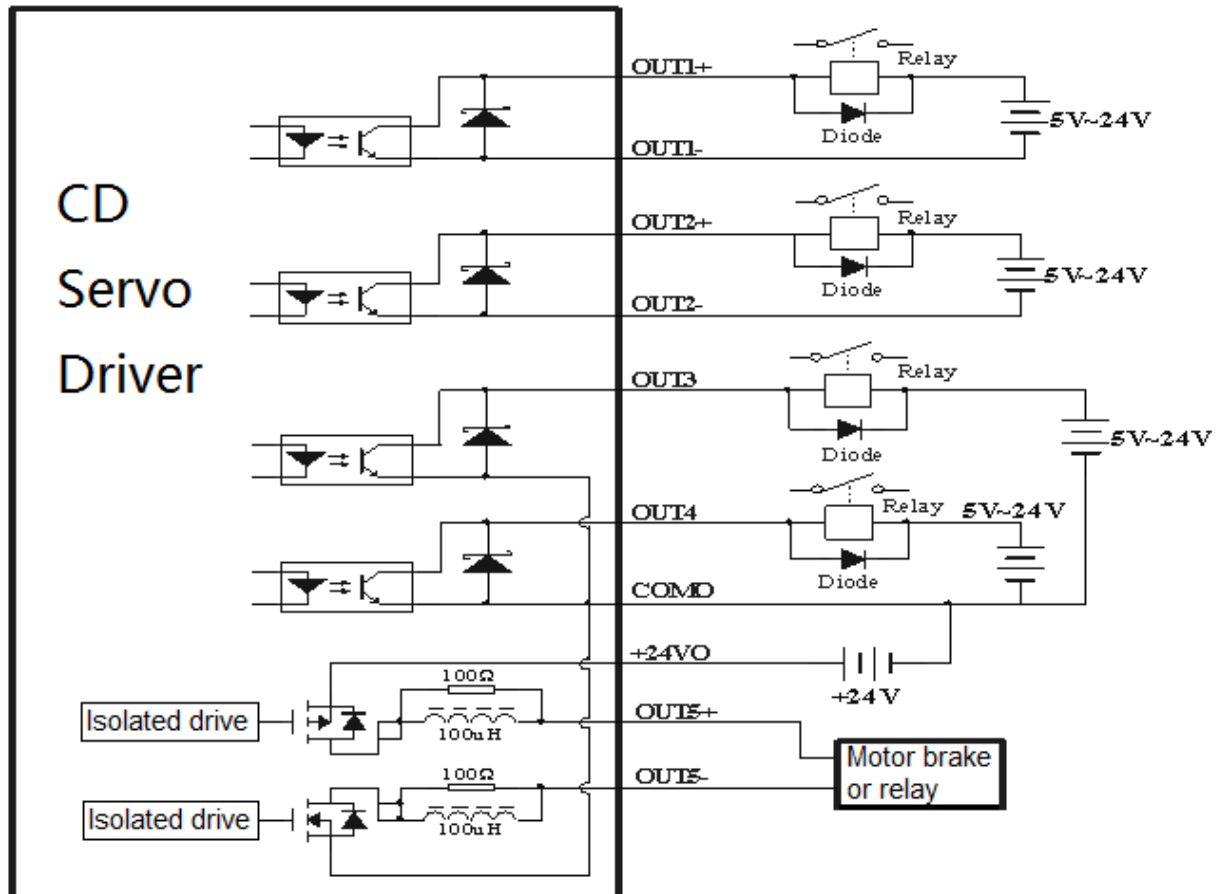

Fig. 6-7 Connect a relay to the digital output port (Reverse parallel connect diode)
4. To connect a relay to the digital output port, do remember to connect a diode in inverse parallel, as shown in Fig. 6-7.